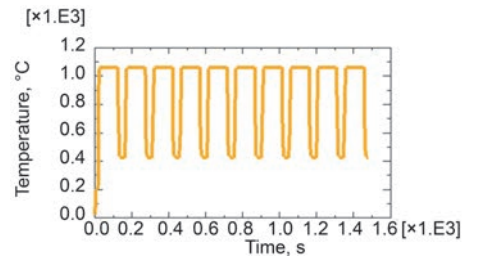

Fig. 7 — Thermal load applied on the roll.
Heat transfer analysis was used to predict the temperature history of the welded roll by modeling heat convection from hot air inside the furnace using Abaqus software and a user-developed subroutine. The heat flux ( $q$ ) was calculated using equation (1) in which the heat convection coefficient ( $h$ ) was input as a constant number, 20 W/m2 C.  $T_s$  represents furnace temperature, which varies by location and time. Figure 7 is the predicted temperature on the roll for 10 heating cycles.
Transient, static, stress, and displacement analyses with time-dependent material responses were conducted using the Abaqus commercial finite element code and inputting the predicted temperature history. Isotropic creep and plasticity coupled behavior was modeled by solving a coupled system of constitutive equations. Figure 8 shows the predicted maximum principal stress after the 10th cycle (Fig. 7). Stress magnitudes are low because the roll is at a relatively high temperature of 427°C. High stress is observed in the interface between the weld and base metal, which could be induced by the difference of thermal expansion coefficient between